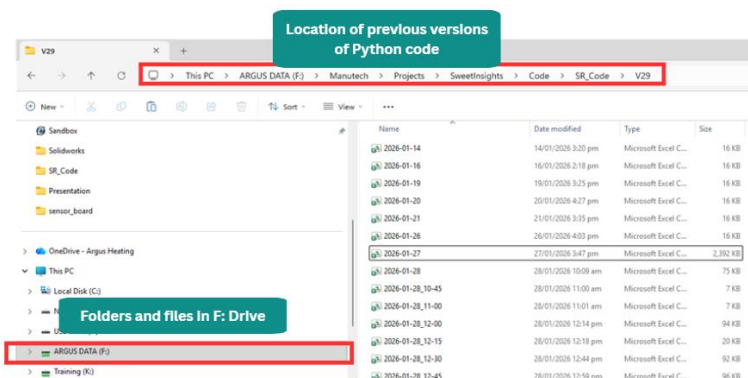

Figure 48: SR Code Location.
- The folder containing this code is shown in Figure 48.